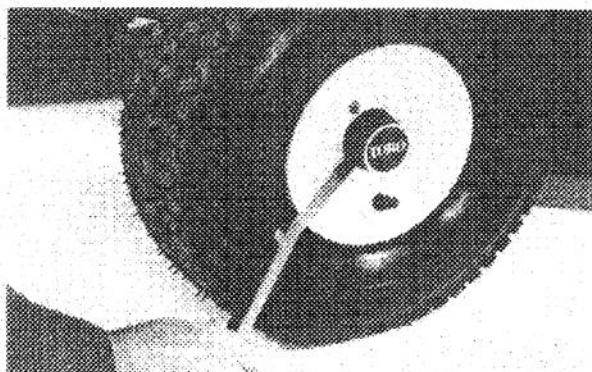

Figure 47
3. Use a pry bar to lever the hub cap off the axle (Fig. 47).